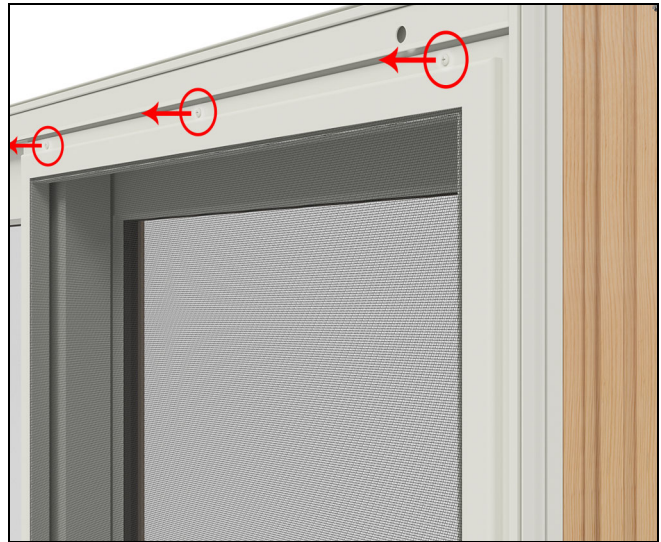

Figure 9
1. To remove screen, simply remove screws attaching screen to roller bar and lift off guide or remove entire screen assembly out by lifting the bottom rail guide off the sill screen guide and pull the entire assembly out of the head jamb track, See Figure 9. (This is reverse of the procedure, Install and Adjust the Screen on page 1).